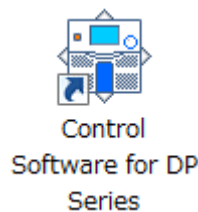

Figure 3-1 Shortcut Icon on Desktop
- Double-click the shortcut icon on the desktop (Figure 3-1).